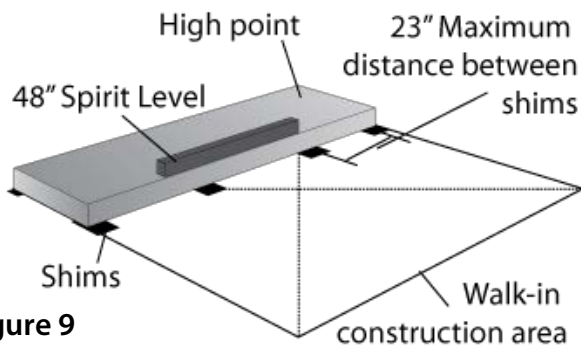

Figure 9
- B. Check plan view for any special panel configuration, then place a 23 1/2 inch wide floor end panel along the most logical starting point (usually the furthest corner from existing building wall). Level the floor panel to high point of concrete slab. See Figure 9.